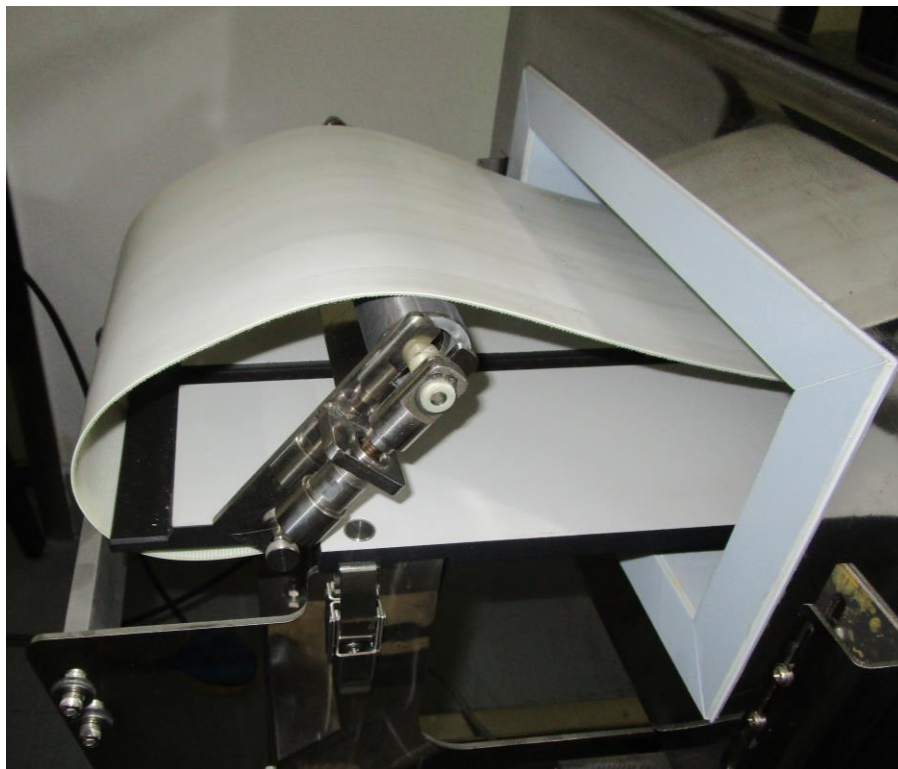

Figure 4-1 Fold up the quick release part of the driven roller
1) From the side of the driven roller, fold up the quick release part (Figure 4-1, note that it is a roller, not a belt).